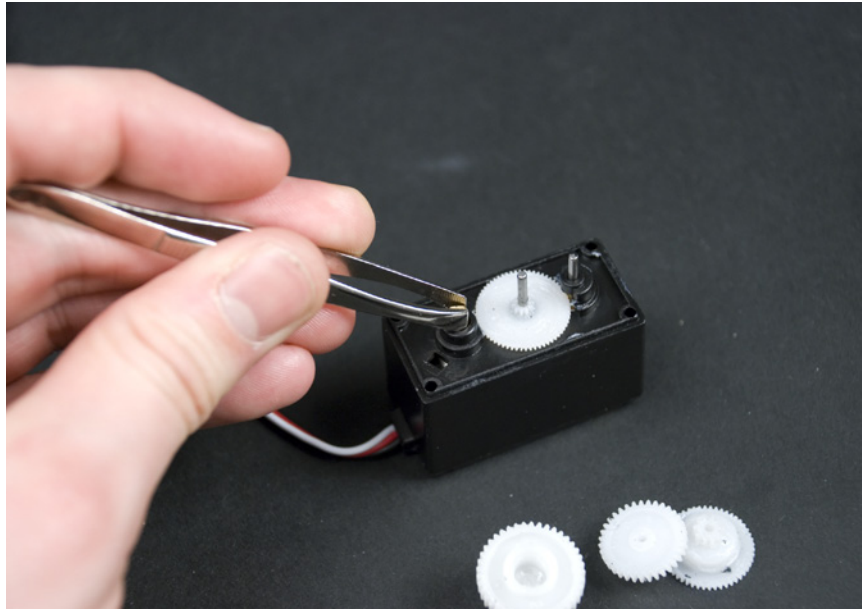

Figure 8-15. *Adjusting the potentiometer to the center*
8. Using small needlenose pliers, rotate the shaft of the potentiometer right and left to determine its range of movement. Turn it to its center position, as shown in Figure 8-15. This way, the servo thinks that it is always centered, and it will be able to rotate continuously. To make sure it's calibrated,